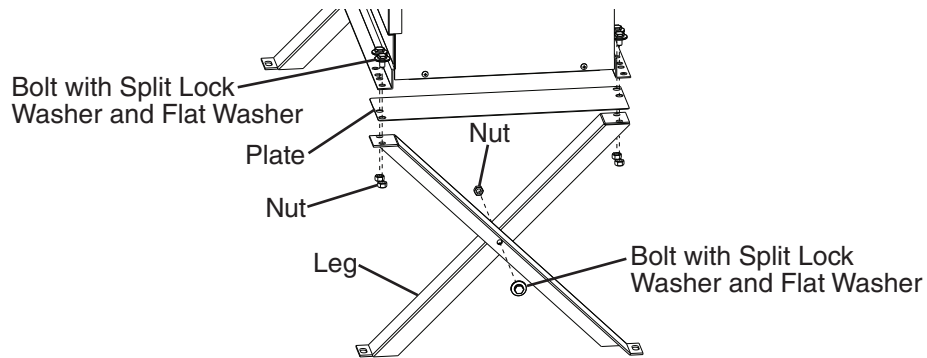

Fig. 9
- 1) Assemble 2 sets of legs using the legs, bolts, and nuts provided. See Fig. 9.